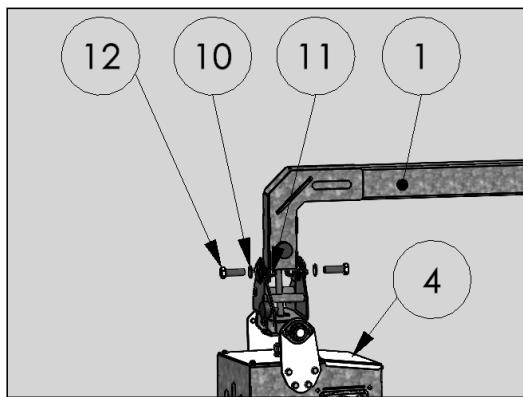

Figure 4: Mounting the brush with the drive unit.
2. Screw the drive unit (Item 4, Fig. 4), using the screws (Item 12, Fig. 4), washers (Item 10, Fig. 4) and nuts (Item 11, Fig. 4) to the suspension arm (Item 1, Fig. 4). Install the suspension arm, including drive unit, at the determined mounting height